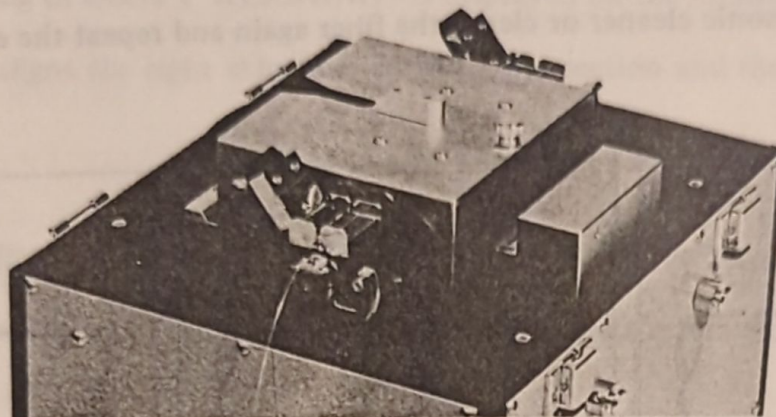

Fig. 18 Closing the Wind Protector
- (7) Close the wind protector ④. (Refer to Fig. 18) This activates the illumination lamp light and causes the mirror ⑨ move up.